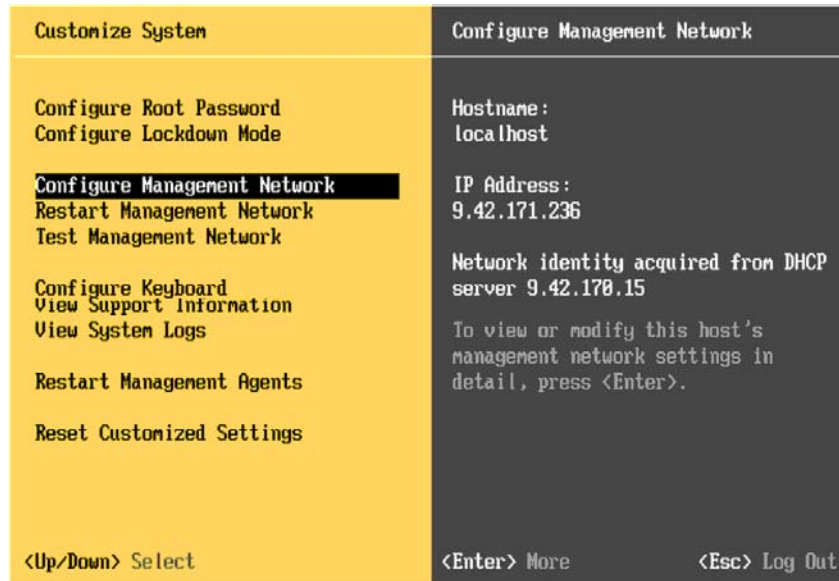

Figure 5-16 Configuring the management network IP address settings
4. Set the host name (for example DNS FQDN) and DNS servers IP Addresses by selecting **Configure Management Network**. See Figure 5-16 on page 270. You might want to set the ESXi host management IP Address (this interface should be separate to the interfaces you would set in VI Client for Virtual Machine traffic) to static rather than DHCP, depending on your management network policies.